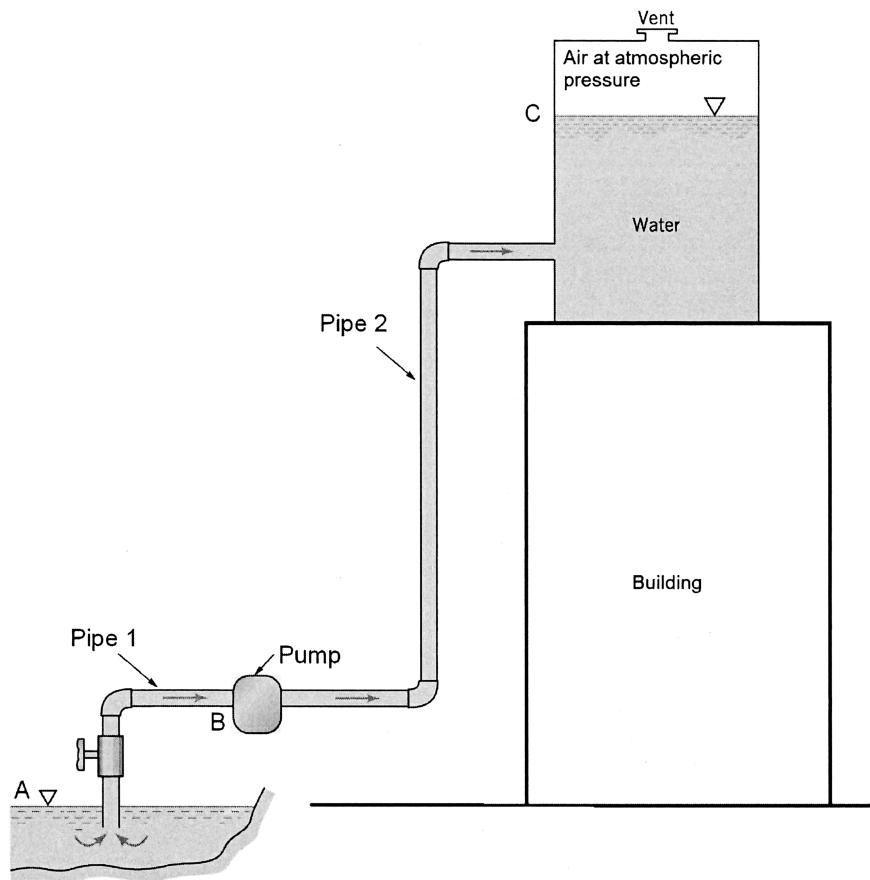

Figure 5
- 4 (a) Figure 5 shows water is pumped from a reservoir A to the top of a building C through pipes 1 and 2. The elevations of the free surface of reservoir A, points B and C are 0 m, 2 m and 100 m respectively. The pump to be used in this arrangement has a pump characteristics of:
Figure 5 appears on page 6.